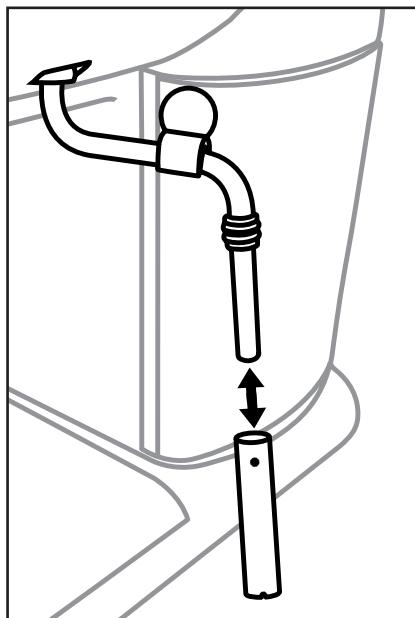

Figure 1
- 1) Place an empty container under the milk frother ⑩.
- 2) Immediately after use, turn the steam control ⑦ to the " + " position and allow the steam to escape for a few seconds.
- 3) Turn the steam control ⑦ off (as far as it will go in the direction " - "), switch the appliance off and remove the plug from the mains power socket.
- 5) Pull the casing of the milk frother ⑩ off (Figure 1) and clean it thoroughly in warm water.
- 7) Push the casing back onto the nozzle (Figure 1).